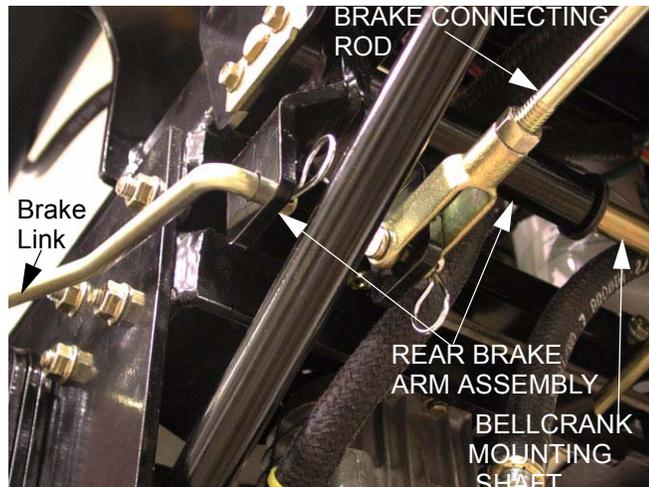

Figure 3.5
3.5. For complete brake adjustment procedures, refer to the "Brake Adjustment" section of this manual. For the purpose of tracking, insure that the brake linkage bellcranks and rods are well lubricated, not damaged, and work as intended. See Figure 3.5.